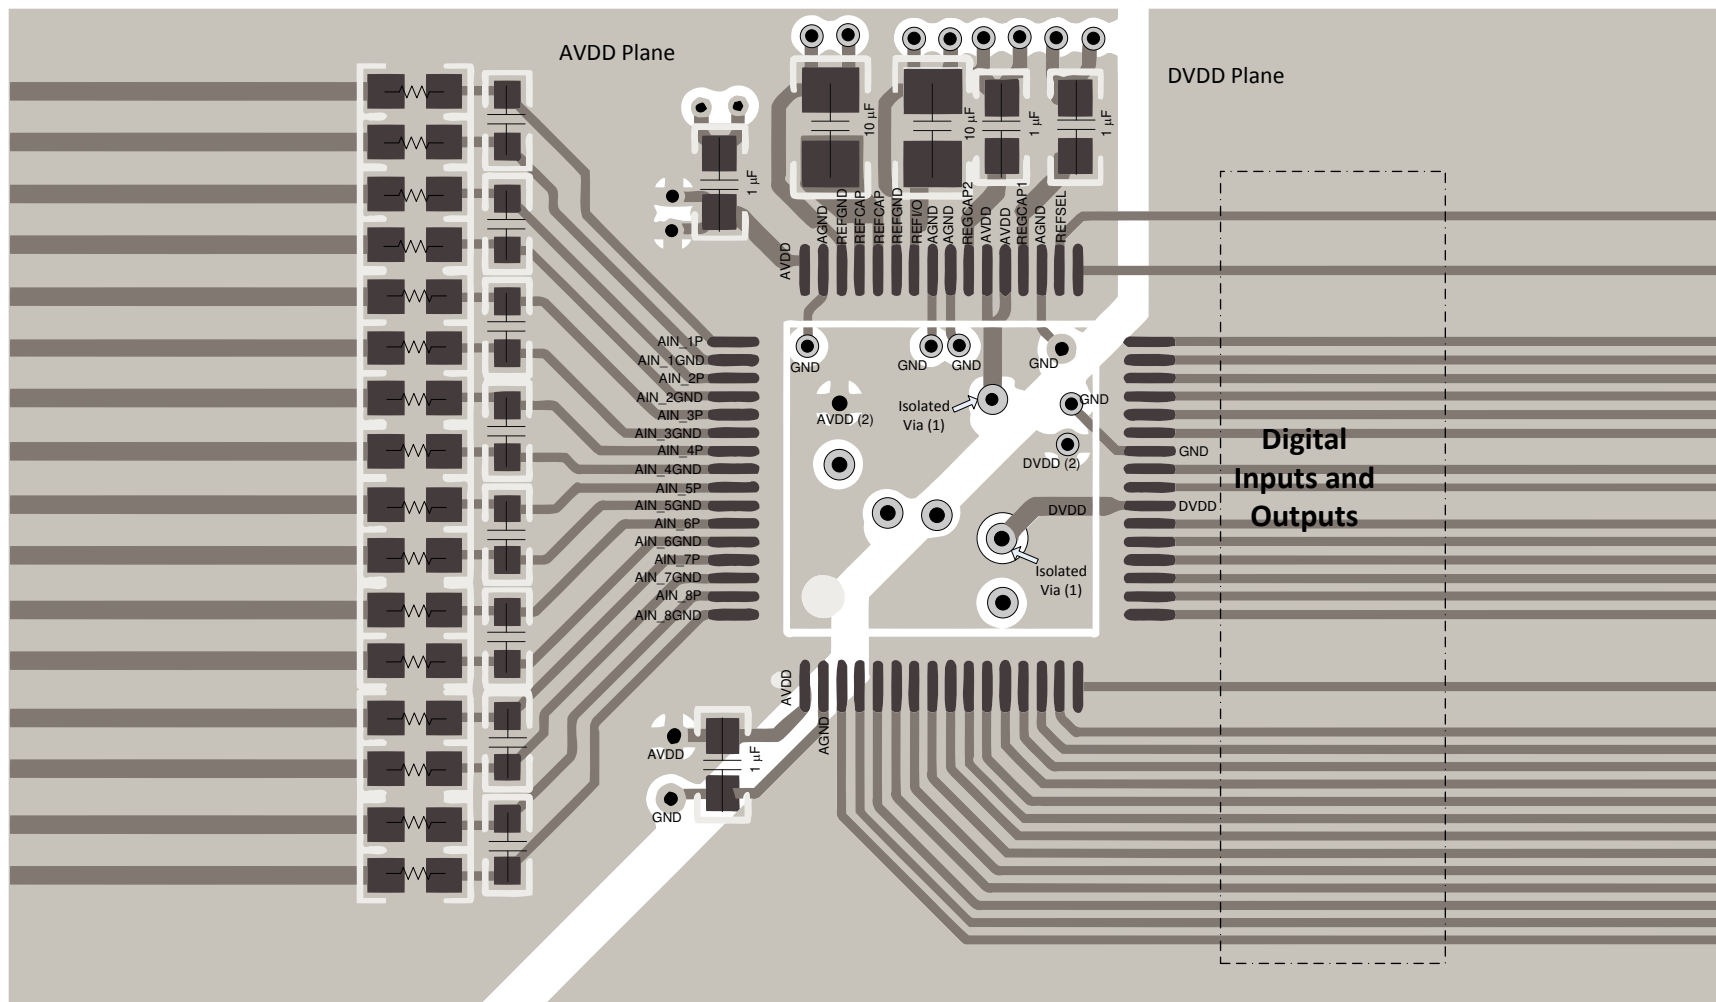
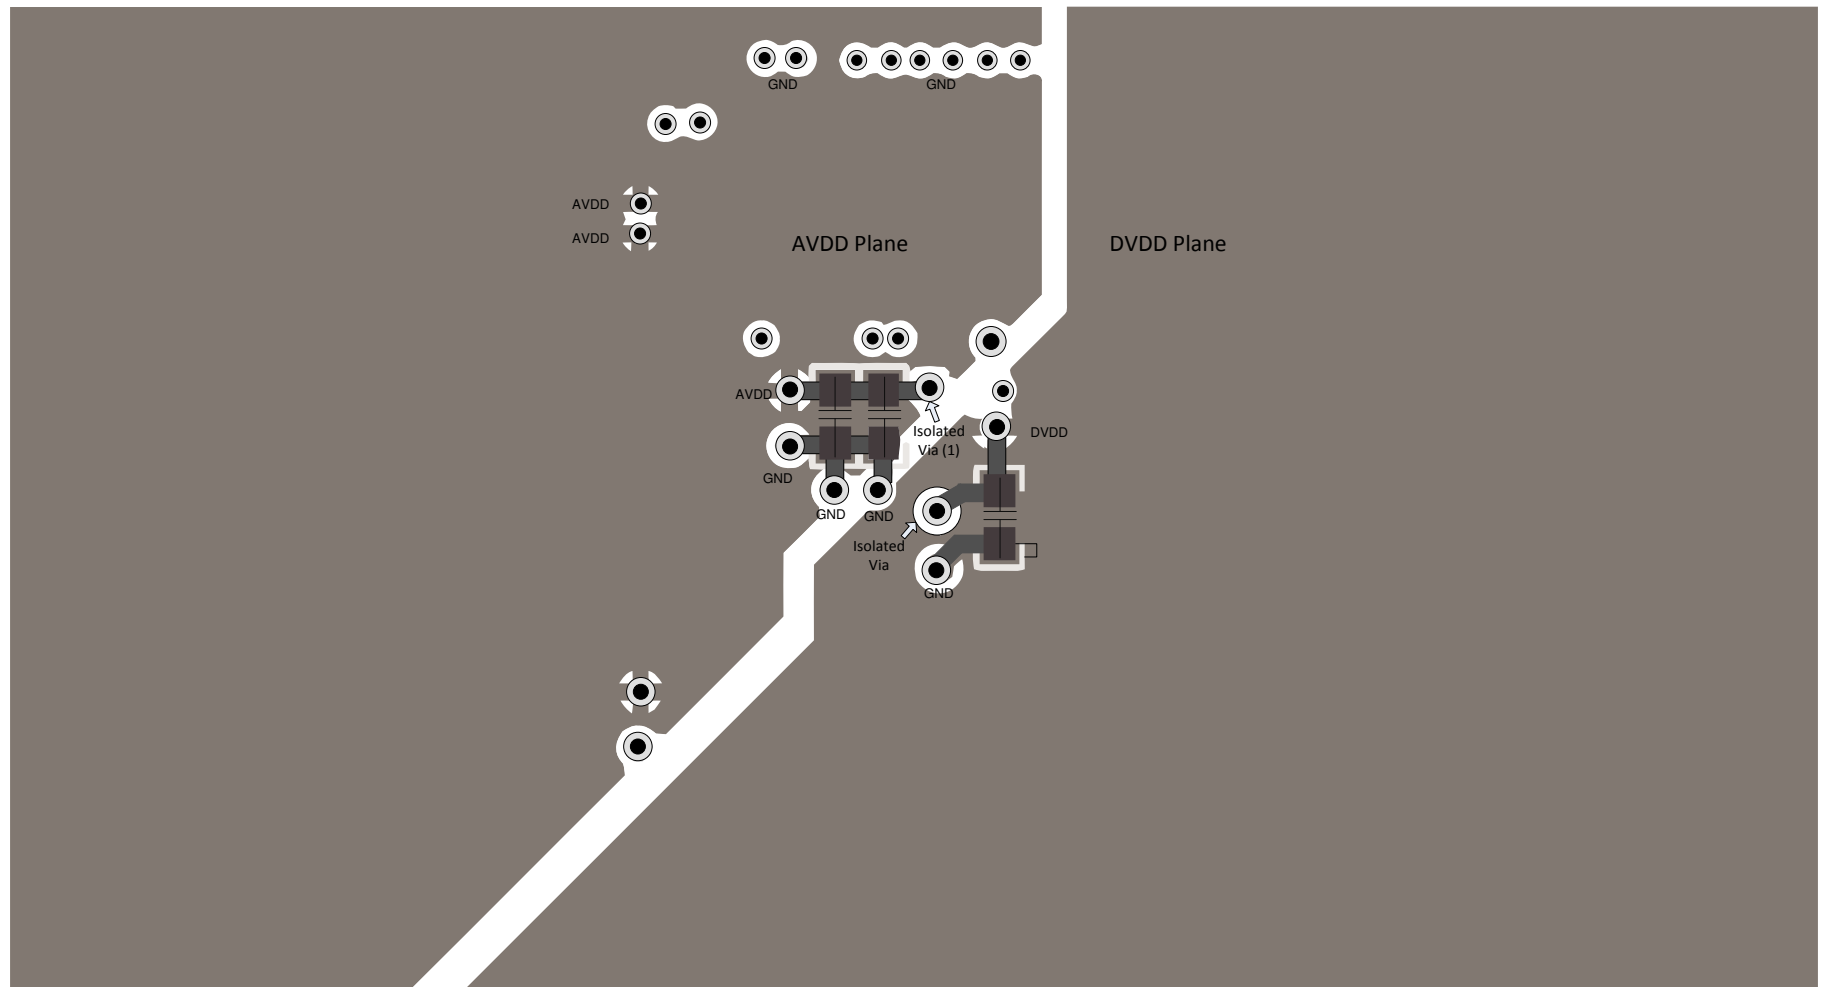

Figure 8-6. Top Layer Layout
Figure 8-7. Bottom Layer Layout
Figure 8-6 and Figure 8-7 illustrate a PCB layout example for the ADS8588H.
- Power sources to the ADS8588H must be clean and well-bypassed. As a result of dynamic currents during conversion, each AVDD must have a decoupling capacitor to keep the supply voltage stable. Use wide traces or a dedicated analog supply plane to minimize trace inductance and reduce glitches. Using a 1- μ F, X7R-grade, 0603-size ceramic capacitor is recommended in close proximity to each analog (AVDD) supply pins. Bypass capacitors for AVDD pins 1 and 48 are located on the top layer; see Figure 8-6. AVDD supply pins 37 and 38 are connected to bypass capacitors in the bottom layer using an isolated via (1); see Figure 8-7. A separate via (2) is used to connect the bypass capacitor to the AVDD plane.
- For decoupling the digital (DVDD) supply pin, a 1- μ F, X7R-grade, 0603-size ceramic capacitor is recommended. The DVDD bypass capacitor is located in the bottom layer; see Figure 8-7.
Figure 8-6 and Figure 8-7 illustrate a recommended layout for the ADS8588H along with proper decoupling and reference capacitor placement and connections.